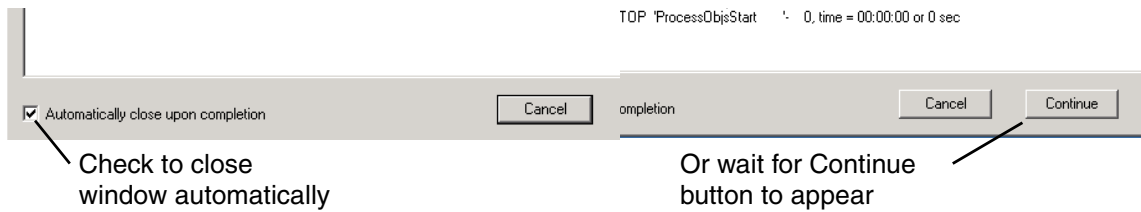

Figure 304. HsBAR Output Window
6. The HsBAR Output window may be opened over and hide the progress status window. There is a check box for specifying that the HsBAR window be closed automatically when finished, Figure 304. This is recommended. If the window is not closed automatically, then wait for the **Continue** button to appear on the bottom of the output window, then click the **Continue** button when ready.